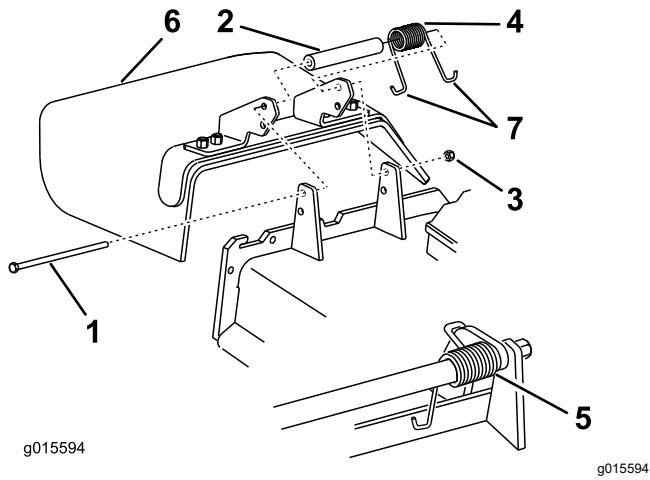

Figure 88
1. Remove the locknut, bolt, spring, and spacer holding the deflector to the pivot brackets (Figure 88).
**Note:** Ensure that a J-end of spring is installed behind deck edge before installing the bolt as shown in Figure 88.
5. Place a J-hook end of spring around grass deflector (Figure 88).